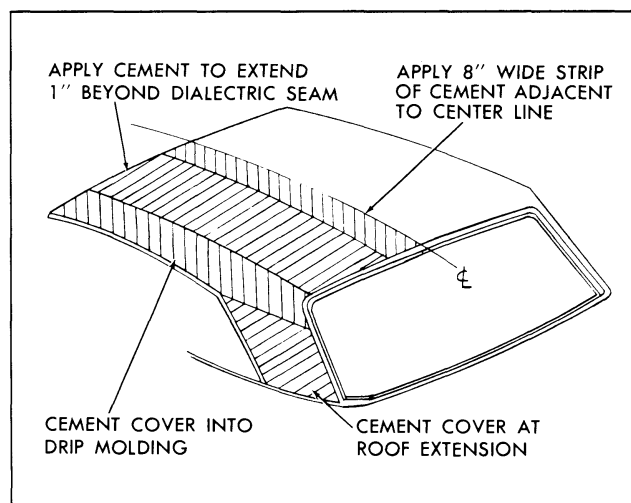
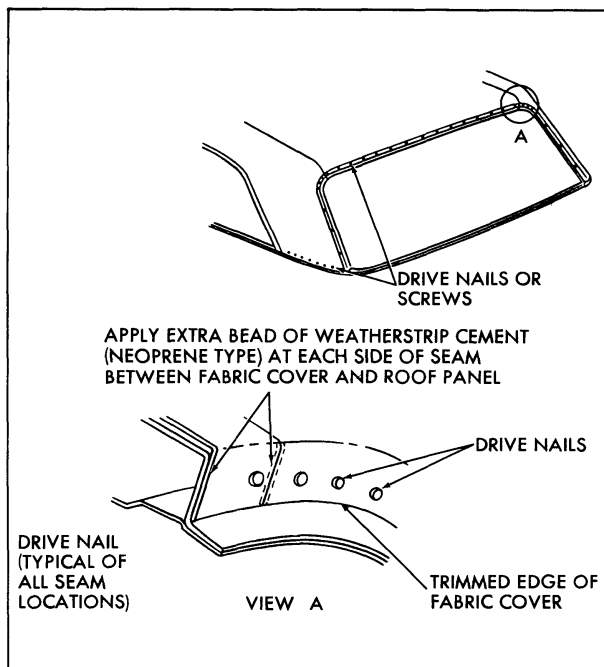

Fig. 23-4 Cementing Cover - Pontiac
Fig. 23-6 Drive Nail Installation
b. Install a drive nail at back window opening at each seam location. View A in Fig. 23-6 is typical of both seam locations at windshield and back window openings.
c. Apply extra bead of cement to each side of dielectric seams between fabric cover and roof panel at windshield and back window openings (view A, Fig. 23-6).
c. Fold cover on center line with inner layer of cover exposed and place on roof panel adjacent to center line. Apply an 8" wide strip of cement (nitrile or neoprene) on roof panel adjacent to center line of roof panel (Fig. 23-4 or 23-5).
j. At windshield and back window openings cement cover into opening as shown in view A, Fig. 23-4. Apply extra bead of cement to each side of dielectric seam between fabric cover and roof panel at windshield and back window openings. (view A, Fig. 23-6).
8. Using hammer and flat end punch install drive nails at windshield and back window openings. View A in Fig. 23-6 shows typical drive nail installation.
9. Install drive nails at belt line of rear quarter area (Fig. 23-6).
10. Trim off material at windshield, back window and rear quarters. View A in Fig. 23-6 shows where trimmed edge should occur in openings.